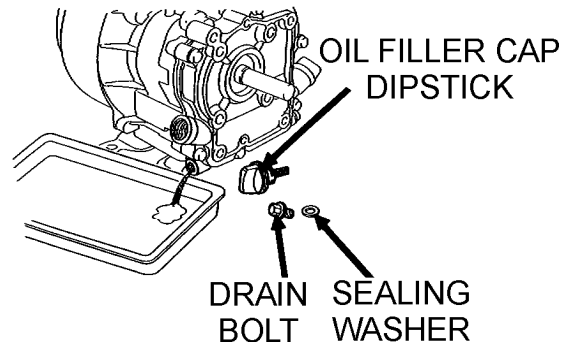

Figure 27. Draining Engine Oil
- Drain the engine oil when the oil is warm as shown in Figure 27.